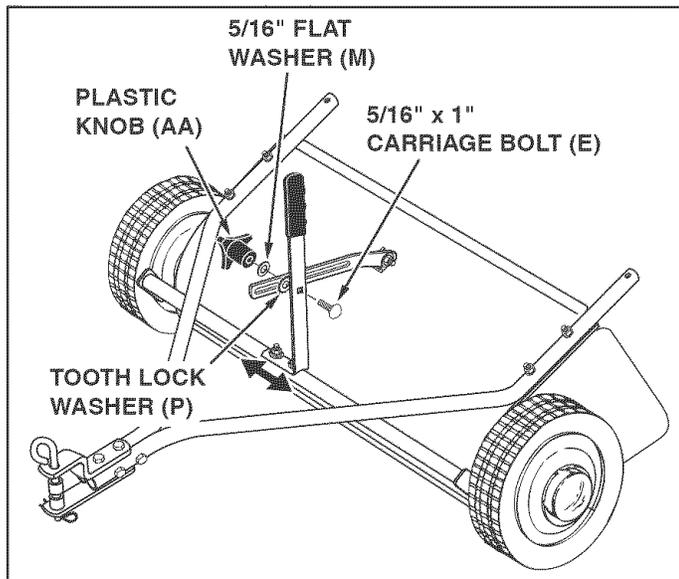

FIGURE 12
STEP 9: (SEE FIGURE 12)
- Position the height adjustment handle side to side so that the tooth lock washer (P) can fit between the handle and the height adjustment strap. **Tighten** the nuts securing the height adjustment handle.
- Insert the 5/16" x 1" carriage bolt (E) through the height adjustment handle. Assemble onto the bolt, in order, the 5/16" tooth-lock washer (P), the height adjustment strap, a 5/16" flat washer (M) and the plastic knob (AA).